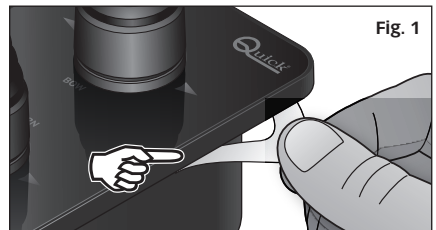

Fig. 1
- (Fig. 1) Detach the protective paper from the adhesive gasket, taking care not to touch the adhesive side with your fingers.